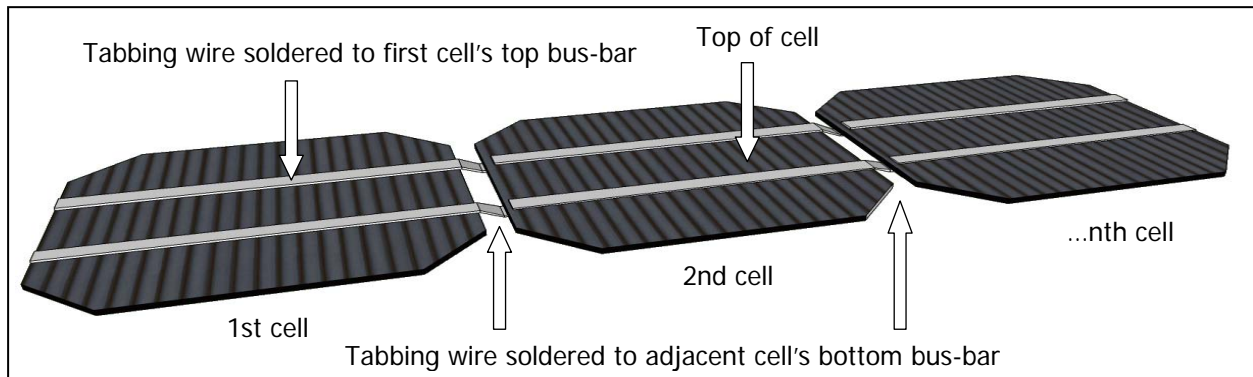

Figure 12
This panel is designed with (12) solar cells connected in series, yielding about 6.0 VDC (12 cells at 0.5 volts each). Figure 12 shows the connection scheme that we ultimately want to accomplish. To wire solar cells in series, we need to connect the top of the first cell to the bottom of the second cell, and the top of the second to the bottom of the third, and so on...until all (12) cells are connected in series.